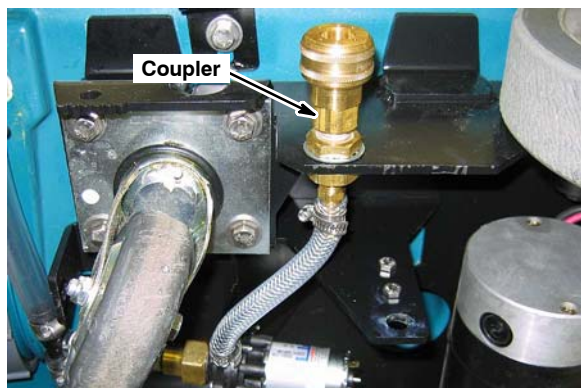

Fig. 5
9. Install the coupler assembly to the machine frame as shown and connect the wand pump solution hose to the coupler (Figure 5).